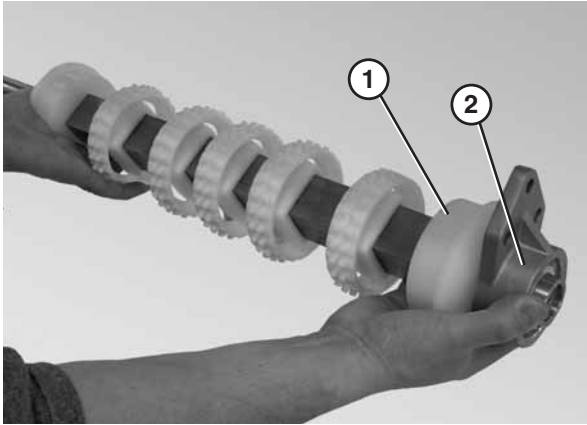

Figure 84
2. Attach the flanged pucks (**Figure 84, item 1**) and the 3 hole flange with bearing (**Figure 84, item 2**) to the drive spindle.